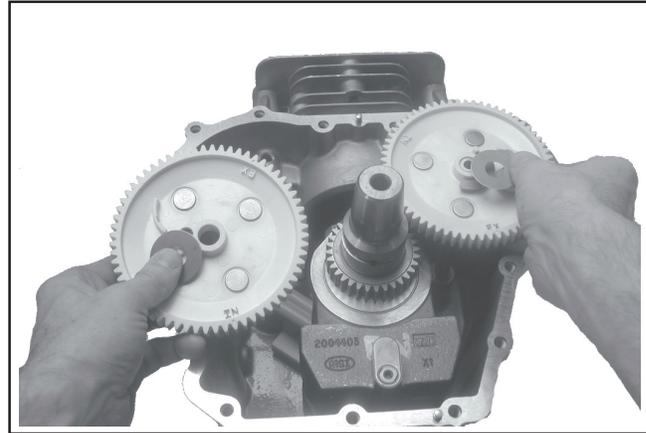

Figure 8-39. Removing Cam Gears.
1. Remove the thrust washers and cam gears from the cam shafts. See Figure 8-39.